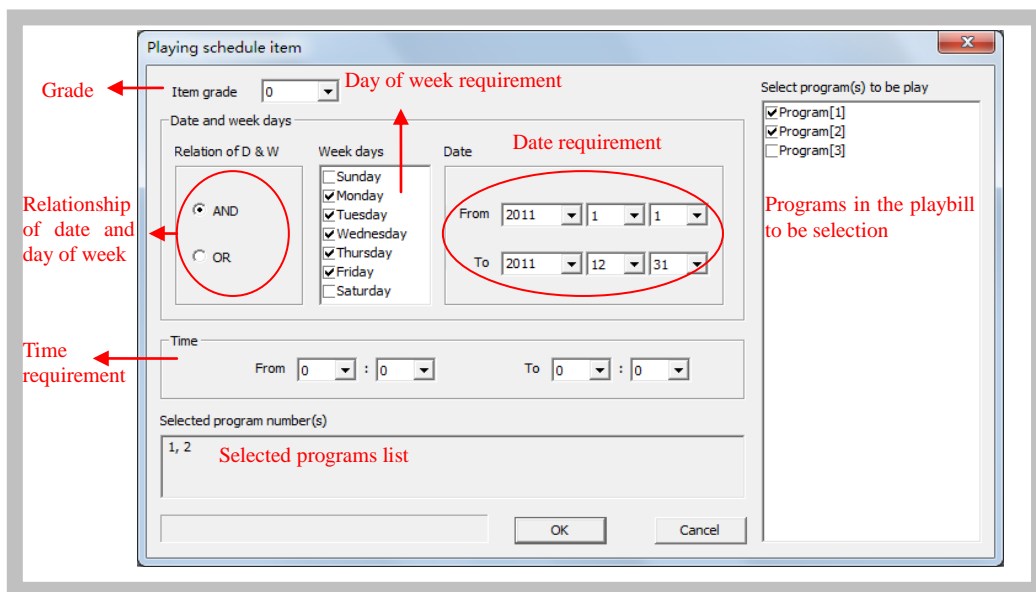

Figure42 Edit a playing schedule
2) Click "Add" button, or select an old schedule and click "Edit" button, the "Play schedule item" dialog box pops up, as Figure42 shown.